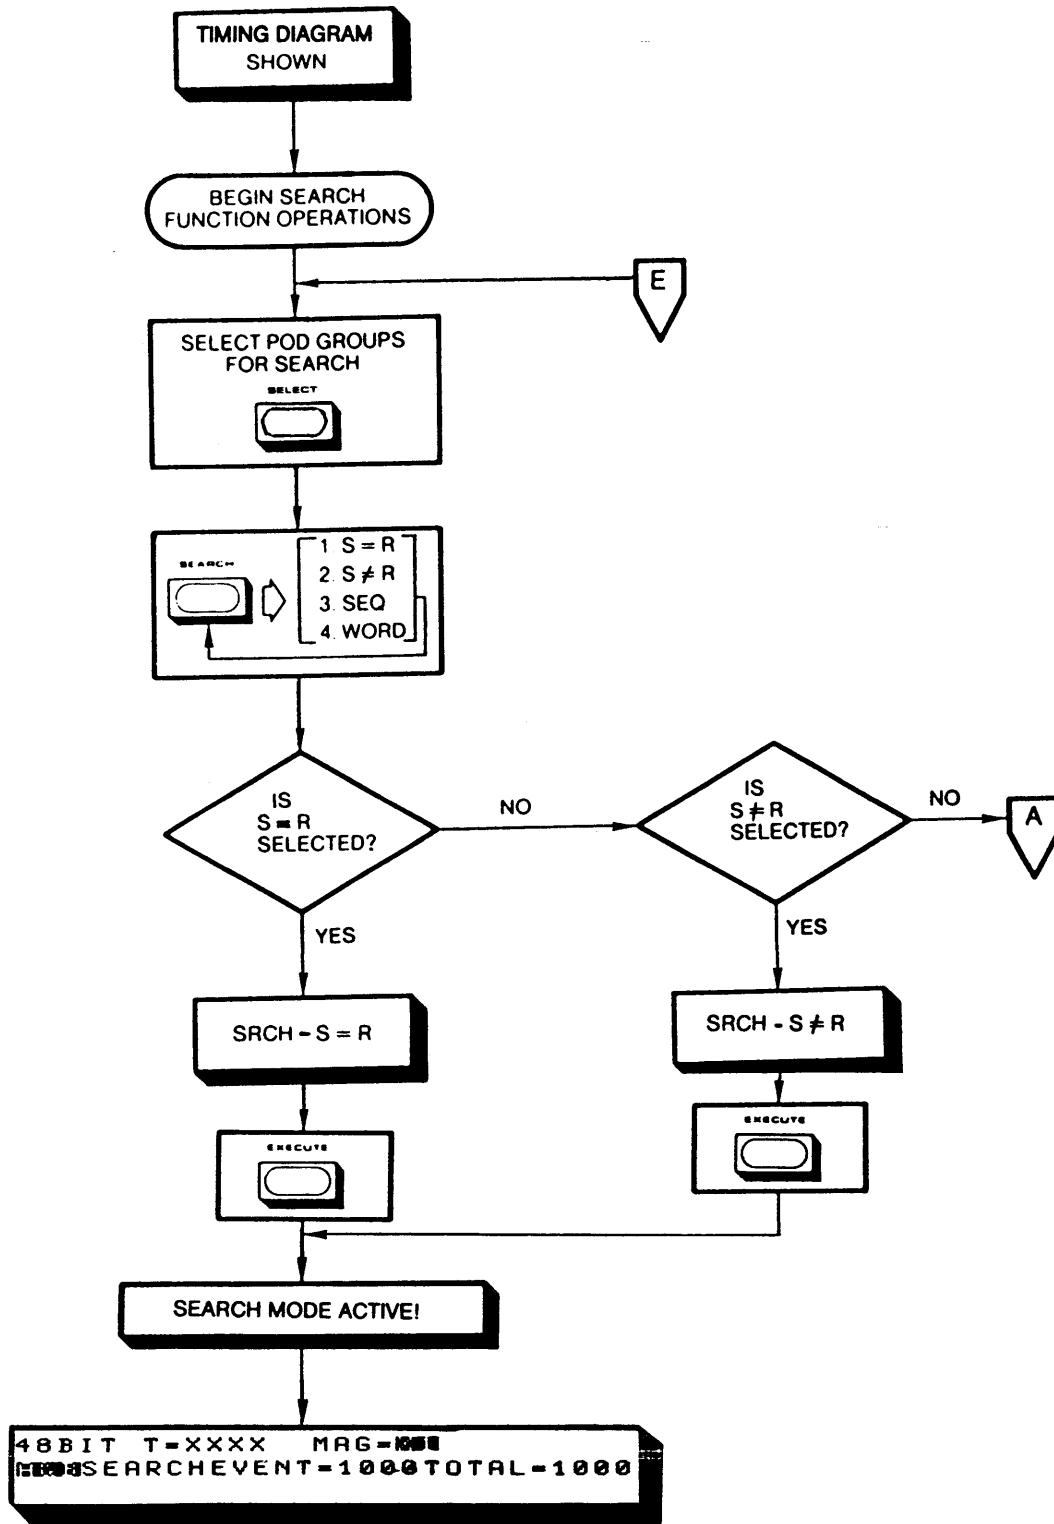

FIGURE 5-34A. TIMING DIAGRAM SEARCH
**5.5.3.1 S = R.** When this function is selected, the analyzer executes a search in the range of the allowable area (either 1K or 2K formats). It searches for conditions when the Source Memory equals the Reference Memory. During this time it displays the number of search cycles (SEARCH EVENT) and the total number of times the condition is true (TOTAL). See Figure 5-34A for operating details.
**5.5.3.2 S ≠ R.** This function operates in the same way as the S = R function, except that the analyzer looks for unequal conditions between the Source and Reference Memories. See Figure 5-34A for operating details.